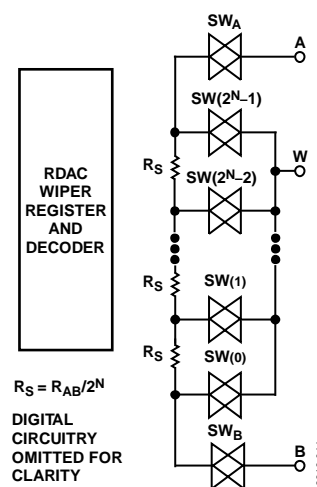

Figure 45. Equivalent RDAC Structure
The patent-pending RDAC contains multiple strings of equal resistor segments with an array of analog switches that acts as the wiper connection. The number of positions is the resolution of the device. The AD5235 has 1024 connection points, allowing it to provide better than 0.1% setability resolution. Figure 45 shows an equivalent structure of the connections among the three terminals of the RDAC. The SWA and SWB are always on, while the switches, SW(0) to SW(2N - 1), are on one at a time, depending on the resistance position decoded from the data bits. Because the switch is not ideal, there is a 50  $\Omega$  wiper resistance, RW. Wiper resistance is a function of supply voltage and temperature. The lower the supply voltage or the higher the temperature, the higher the resulting wiper resistance. Users should be aware of the wiper resistance dynamics, if accurate prediction of the output resistance is needed.
The 10-bit data-word in the RDAC latch is decoded to select one of the 1024 possible settings. The following description provides the calculation of resistance,  $R_{WB}$ , at different codes of a 25 k $\Omega$  part. The first connection of the wiper starts at Terminal B for Data 0x000.  $R_{WB}(0)$  is 30  $\Omega$  because of the wiper resistance, and it is independent of the nominal resistance. The second connection is the first tap point where  $R_{WB}(1)$  becomes 24.4  $\Omega$  + 30  $\Omega$  = 54.4  $\Omega$  for Data 0x001. The third connection is the next tap point representing  $R_{WB}(2)$  = 48.8  $\Omega$  + 30  $\Omega$  = 78.8  $\Omega$  for Data 0x002, and so on. Each LSB data value increase moves the wiper up the resistor ladder until the last tap point is reached at  $R_{WB}(1023)$  = 25006  $\Omega$ . See Figure 45 for a simplified diagram of the equivalent RDAC circuit. When  $R_{WB}$  is used, Terminal A can be left floating or tied to the wiper.